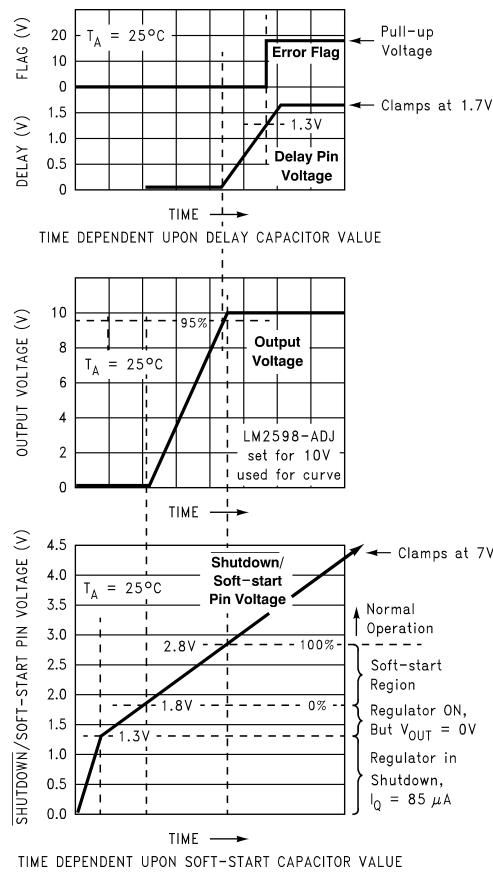
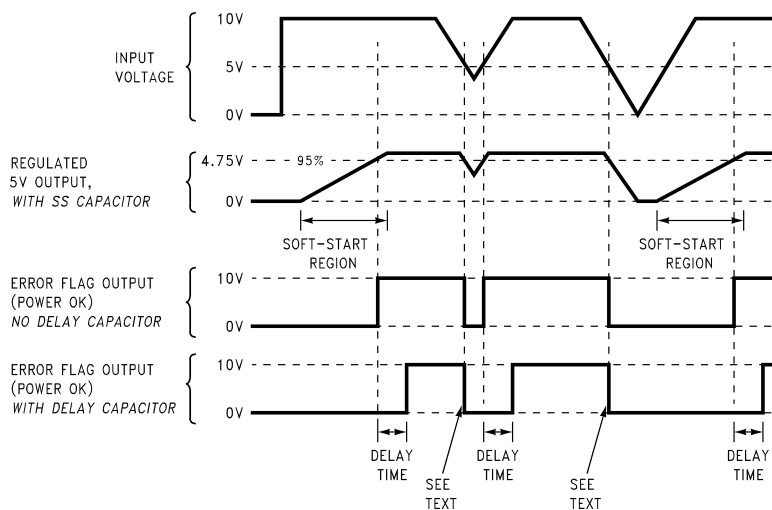

Figure 28. Soft-start, Delay, Error, Output
Figure 29. Timing Diagram for 5-V Output
A capacitor on this pin provides the regulator with a Soft-start feature (slow start-up). When the DC input voltage is first applied to the regulator, or when the Shutdown/Soft-start pin is allowed to go high, a constant current (approximately 5 μ A begins charging this capacitor). As the capacitor voltage rises, the regulator goes through four operating regions (See the bottom curve in Figure 28).
3. Soft-start region: When the $\overline{SD/SS}$ pin voltage is between 1.8 V and 2.8 V at 25°C, the regulator is in a Soft-start condition. The switch (Pin 1) duty cycle initially starts out very low, with narrow pulses and gradually get wider as the capacitor $\overline{SD/SS}$ pin ramps up towards 2.8 V. As the duty cycle increases, the output voltage also increases at a controlled ramp up. See the center curve in Figure 28. The input supply current requirement also starts out at a low level for the narrow pulses and ramp up in a controlled manner. This is a very useful feature in some switcher topologies that require large start-up currents (such as the inverting configuration) which can load down the input power supply.
Note: The lower curve shown in Figure 28 shows the Soft-start region from 0% to 100%. This is not the duty cycle percentage, but the output voltage percentage. Also, the Soft-start voltage range has a negative temperature coefficient associated with it.
Provides delay for the error flag output. See the upper curve in Figure 28, and also refer to timing diagrams in Figure 29. A capacitor on this pin provides a time delay between the time the regulated output voltage (when it is increasing in value) reaches 95% of the nominal output voltage, and the time the error flag output goes high. A 3- μA constant current from the delay pin charges the delay capacitor resulting in a voltage ramp. When this voltage reaches a threshold of approximately 1.3 V, the open collector error flag output (or power OK) goes high. This signal can be used to indicate that the regulated output has reached the correct voltage and has stabilized.